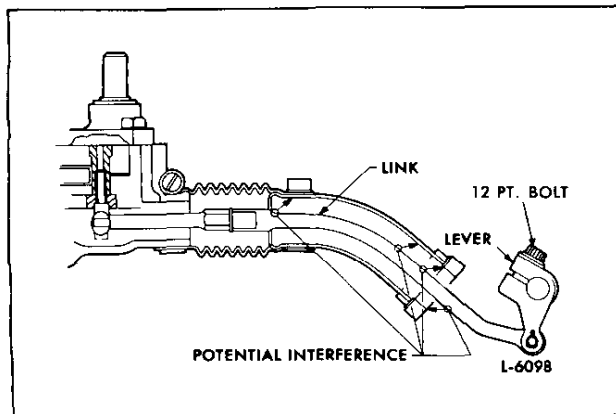

Fig. 1 - Check Points for Interference
1. Loosen the 12-point clamp bolts in the left and right shaft control levers (Fig. 1).